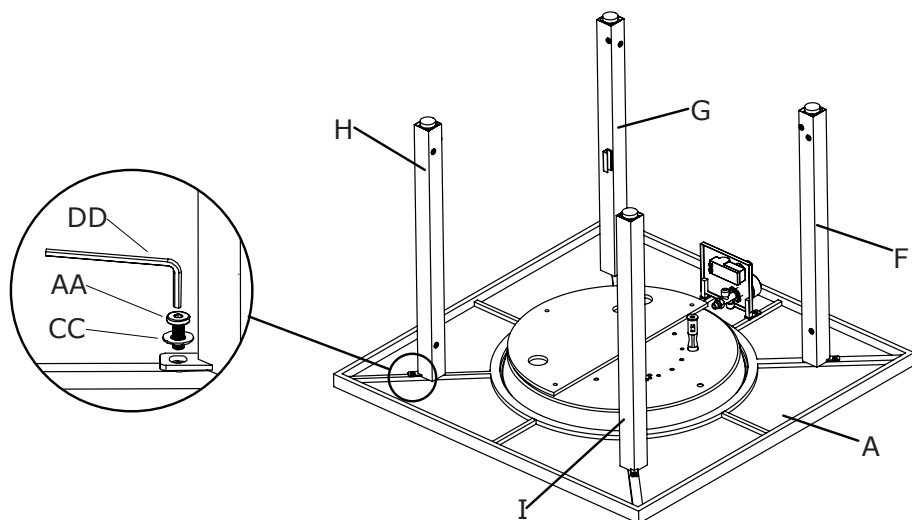

Figure 2
2. Attach back-left leg (H) and back-right leg (I) and front-left leg (G) and front-right leg (F) to table top assembly (A) with bolts (AA) and washer (CC) by using hex screw driver (DD), (see Figure 2).